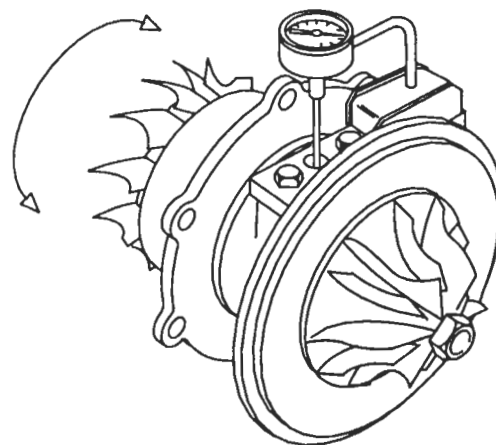

Figure 36. Checking Shaft Radial Movement
- Clamp the flange of the center housing in a bench vise equipped with soft jaws (Figure 36.) with the oil outlet opening in the center housing facing up.